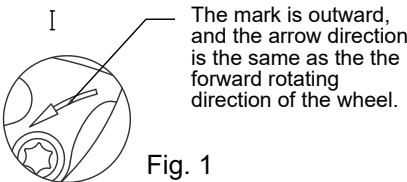

Fig. 1
1. Disc rotor installation (Fig. 1)